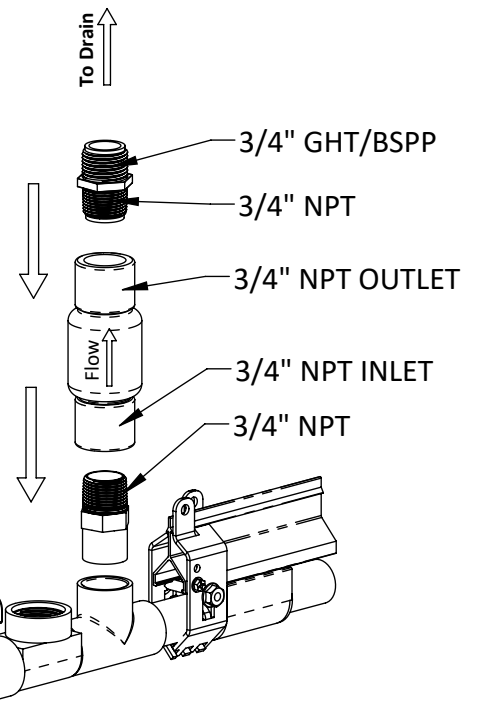

Figure 4: Exploded view of 820786/820787 before installed into the End Assembly
1. Use PVC Cement to glue the PVC NPT adapter fitting (P/N: 813021) into the end assembly tee as shown in figure 4.